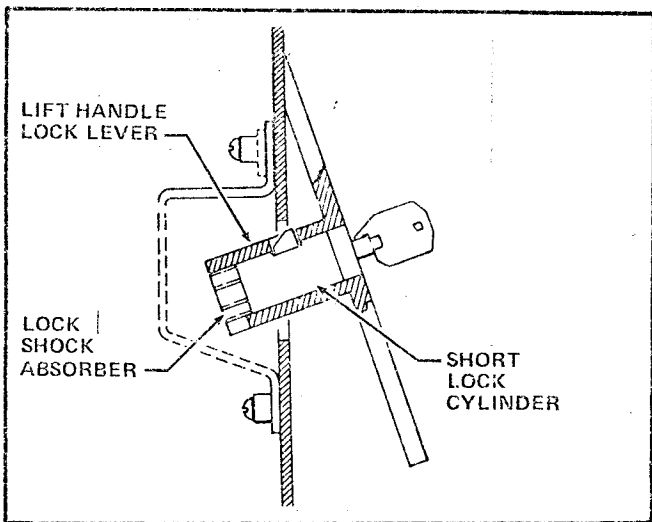

FIGURE 4
4. Press the Lock Shock Absorber in firmly against the rear of the Lock Cylinder. See Figure 4.